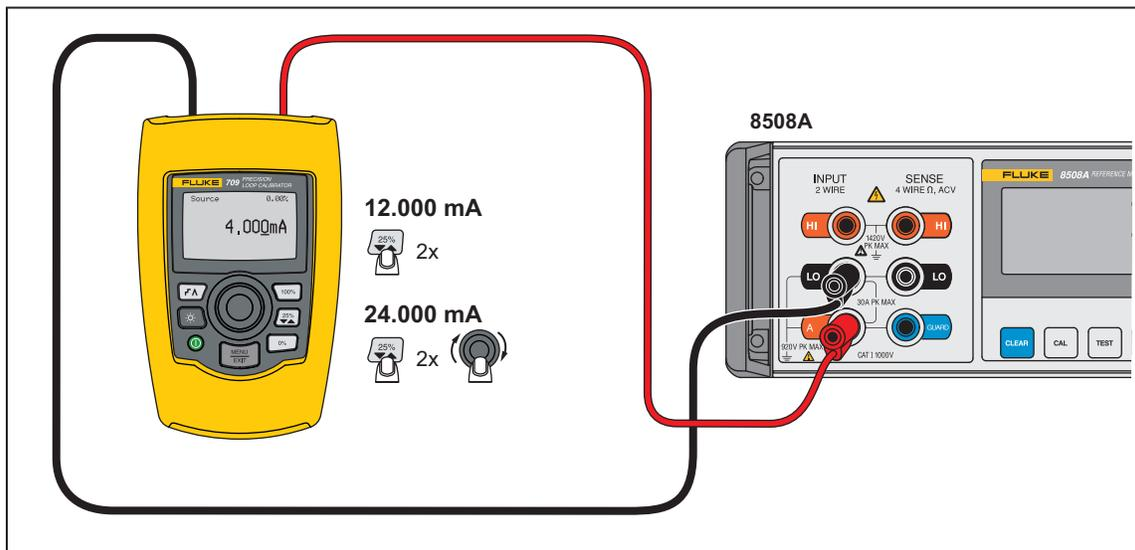

Figure 2. DC Current Source Mode
- b. Connect the COM terminal to the DMM LO input. See Figure 2.